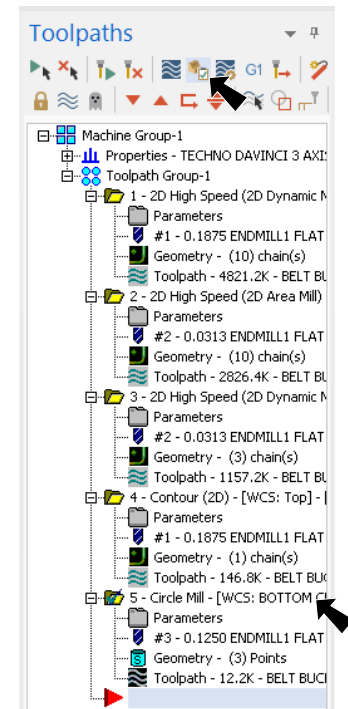

Fig. 101
Step 1. Click **Verify**  in the Toolpaths Manager, **Fig. 101**.
Step 2. Click **Play**  (R) in VCR bar.